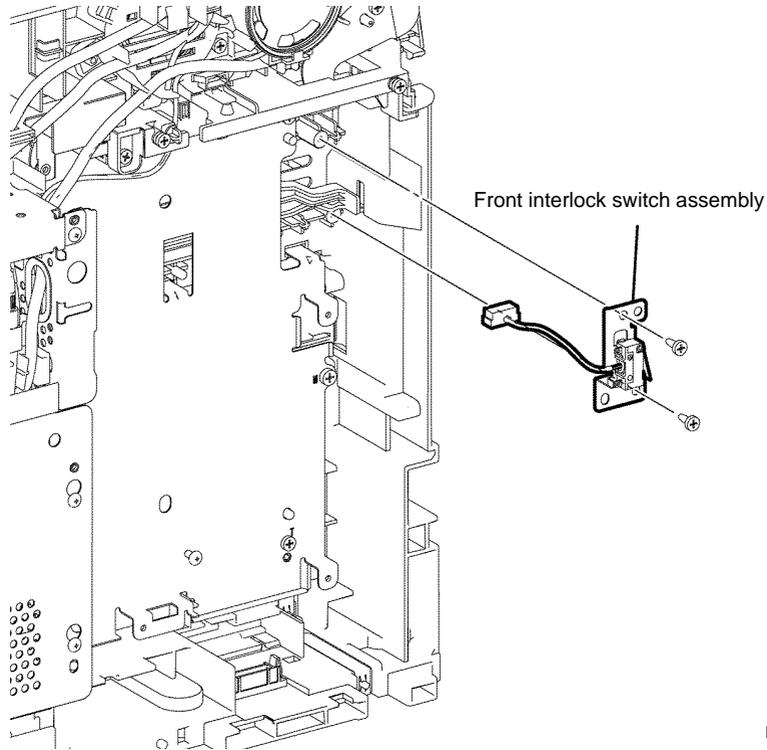

Figure 1 Front interlock switch assembly removal
- Remove two screws (silver, tapping, 8mm), then remove the front interlock switch assembly, Figure 1.